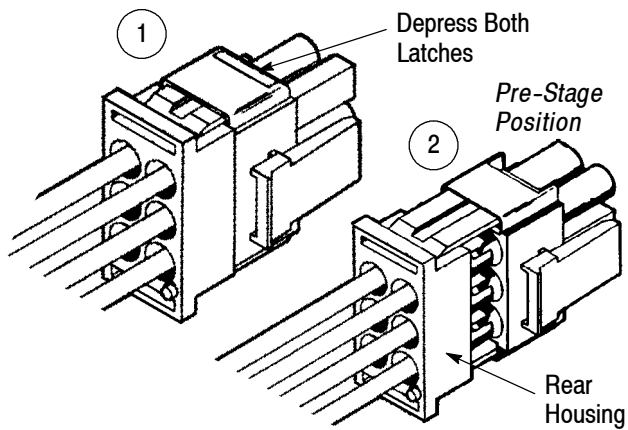

Figure 5
5.1. Housing Disassembly (Figure 5)